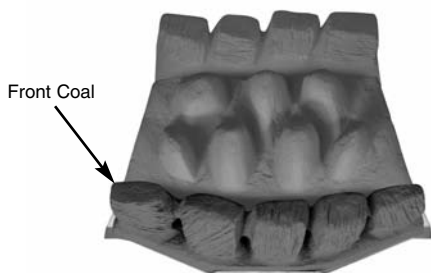

Fig. 81
3. Position the front coal on the front coal retainer, making sure that the back edge is pushed up against the front of the burner strip (Fig. 81).